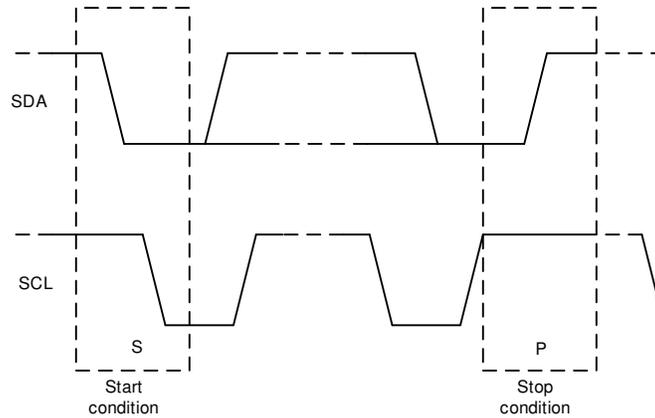

Figure 60. Start and Stop Conditions
- The master initiates data transfer by generating a start condition. The start condition is when a high to-low transition occurs on the SDA line while SCL is high, as shown in Figure 60. All I²C-compatible devices recognize a start condition.
- To signal the end of the data transfer, the master generates a stop condition by pulling the SDA line from low to high while the SCL line is high (see Figure 60). This action releases the bus and stops the communication link with the addressed slave. All I²C-compatible devices recognize the stop condition. Upon receipt of a stop condition, the bus is released, and all slave devices then wait for a start condition followed by a matching address.